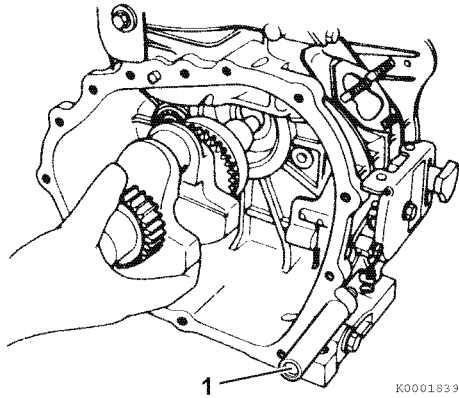

Figure 6-50
17. Remove the crankshaft from the open end of the crankcase. It will be necessary to use a heavy soft-faced hammer to drive the crankshaft out of the crankcase and drive the large main bearing out. Reinstall the flywheel nut to protect crankshaft threads while driving crankshaft and large bearing out. Keep crankshaft aligned as it is driven out by supporting the opposite crankshaft end (**Figure 6-50**).
Do not attempt to adjust or remove the fuel limiter (1, **Figure 6-50**) assembly from the crankcase.